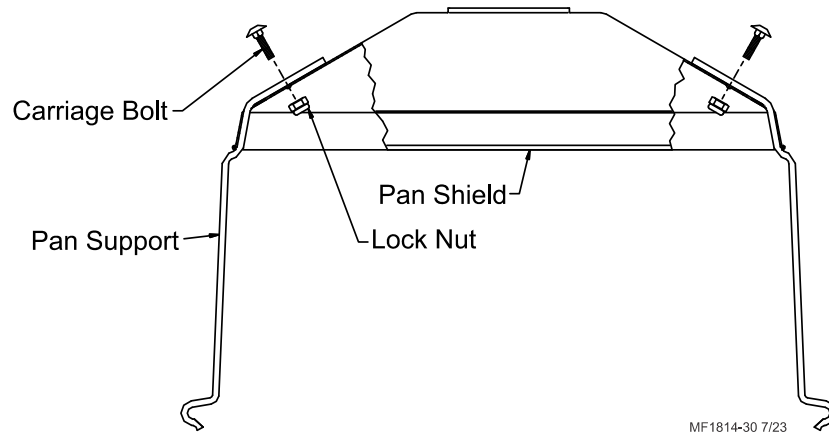

Figure 11. Pan Shield Assembly
3. Bolt the pan support to the pan shield. See figure 11 (on page 17) for instructions on bolting.